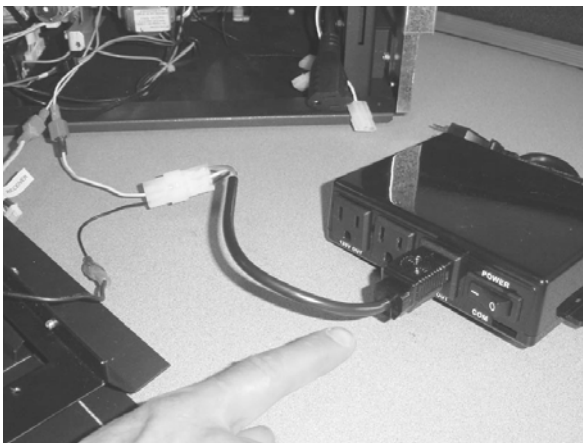
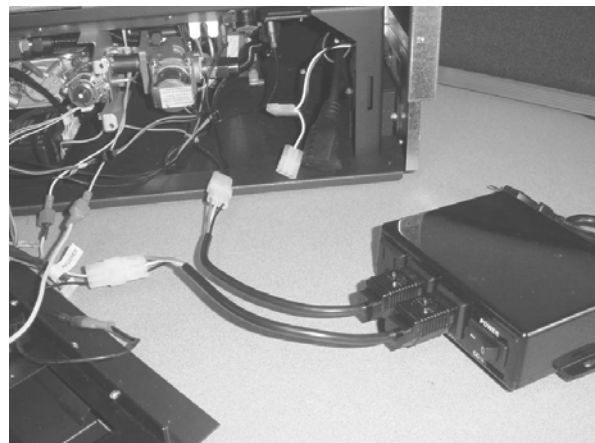

Figure 21
Figure 22
- 18 Place the fan controller near the front of the fireplace. Plug the power lead from the accent light into the fan controller (make sure it is plugged into "AUX OUT" - see Figure 21). If you are using the optional blower, attach the second power lead to the molex connector on the blower wiring harness. Plug this power lead into the fan controller (make sure it is plugged into "FAN" - see Figure 22).